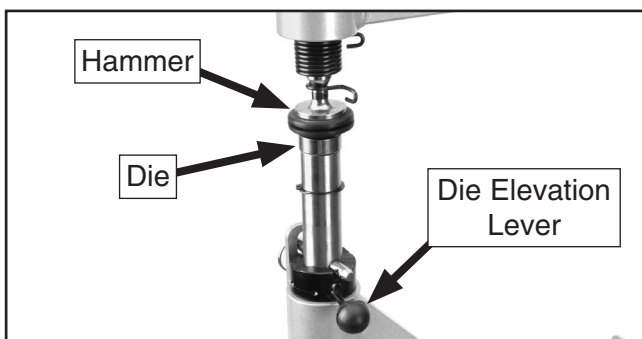

Figure 13. Die elevation lever.
3. Adjust the height of the die, using the die elevation lever (**Figure 13**) to accommodate the thickness or gauge of your workpiece